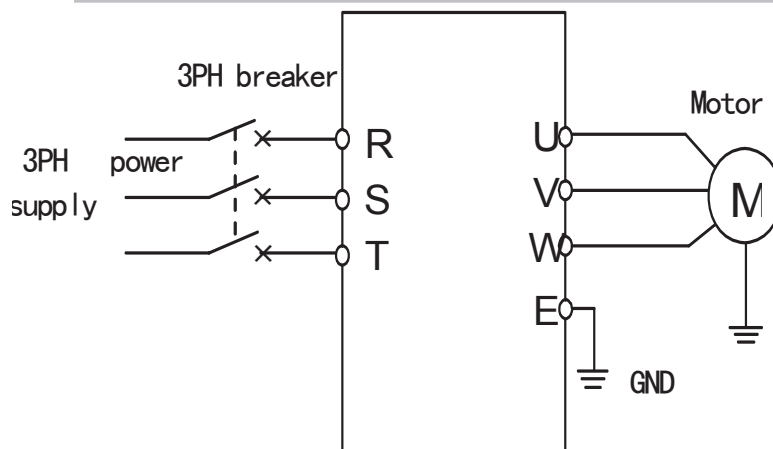

Fig 4-2 Wiring of simple running
- ① Please wire as fig 4-2;
- ② Be sure correct wiring then power on. Inverter displays "P.oFF", then "0";
- ③ Be sure [F0.0] = 0;
- ④ Based on inverter nameplate data for applied motor, please set parameter [F0.12] and [F0.13];
- ⑤ Press key  to start inverter, and inverter outputs freq 0 and displays "0.0";
- ⑥ Press key  for UP function to increase set freq. Inverter output freq increases and motor rotate speed increases;
- ⑦ Check motor running is normal or not. If any abnormal, please stop running immediately and power-off. Then, check the reasons and run again;
- ⑧ Press key  for DOWN function to decrease set freq;
- ⑨ Press key  again to stop running and power-off.